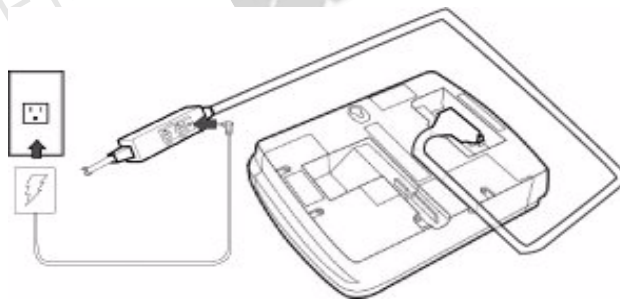

Figure 13 Power Pack Connection
- 2 Insert the multiport cable connector into the port on the back of the M^x800 Series terminal (see Figure 13).
- 4 Plug the power pack into an indoor electrical power outlet (Figure 13).